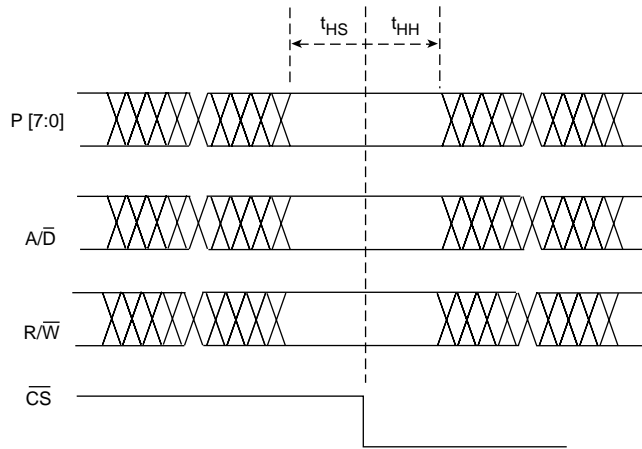

Fig. 8a HOSTIF Parallel Port Input Setup & Hold Times
- B) Signals are "strobed" into/out of the parallel port on the falling edge of the \overline{CS} signal. Setup and hold times, as defined in the AC timing tables, are relative to this edge and must be met (see Figure 8a)